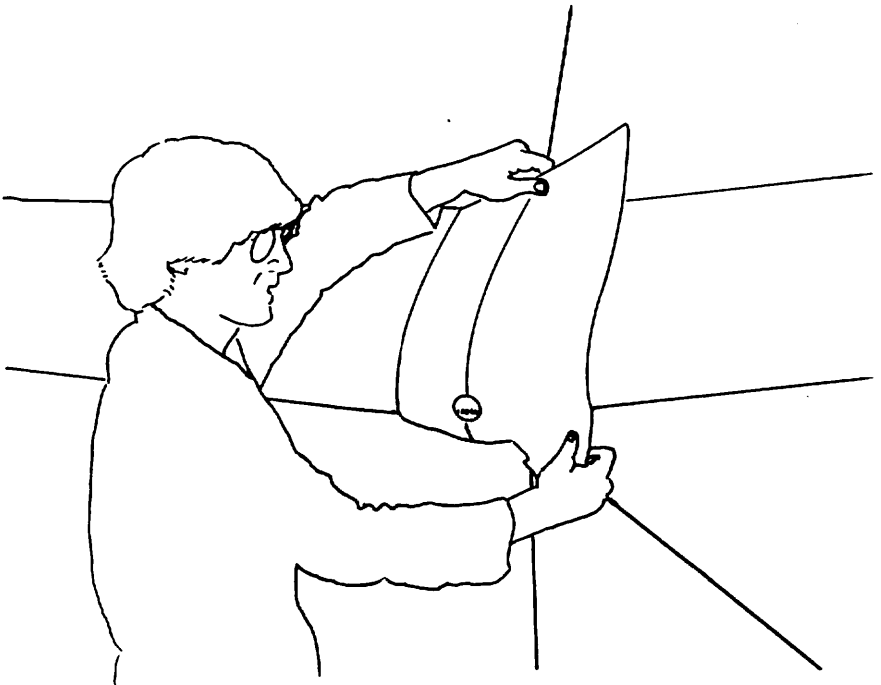
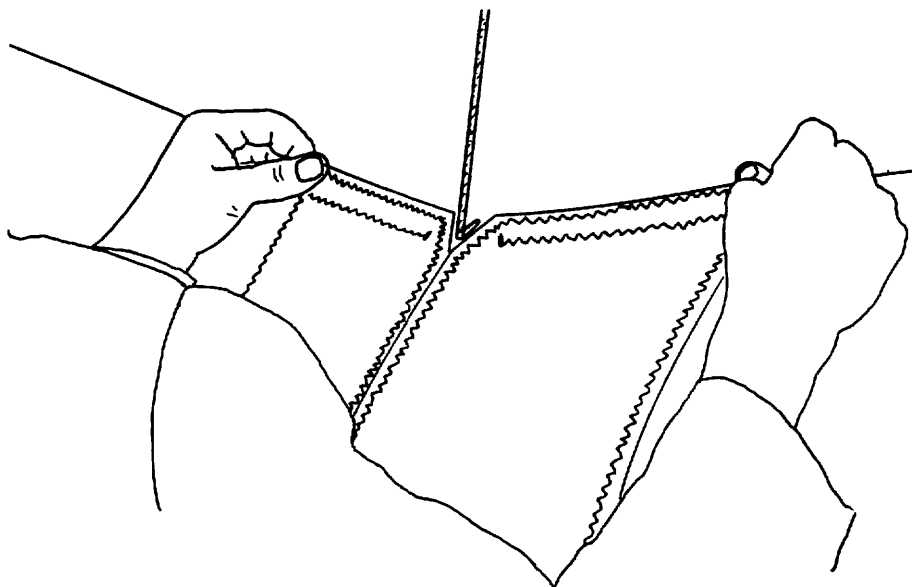
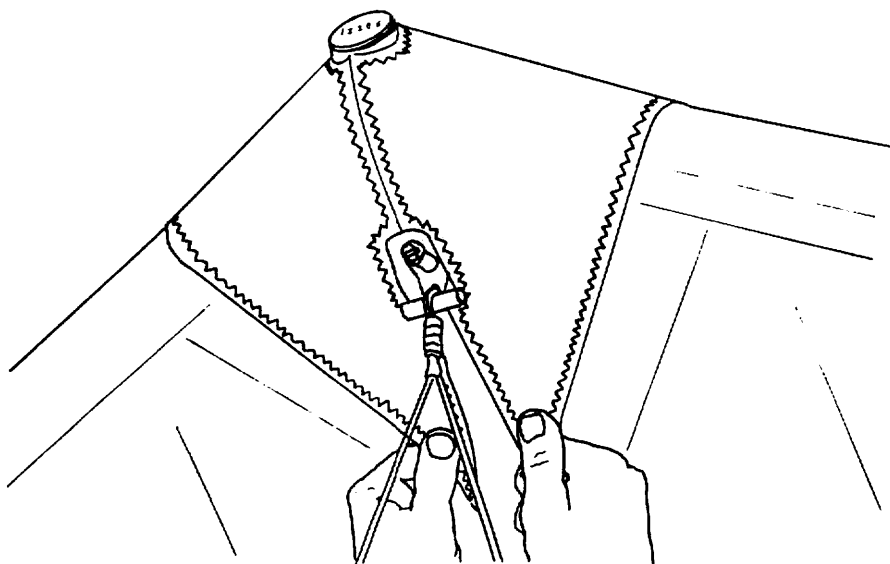

Fig 53
Fig 54
Fig 55
22) Fit the nose cone over the front of the keel (Fig 53) and attach the velcro at the top rear of the nose cone (Fig 54) taking care to line up the nose cone properly. Rest the glider back on its tail and pull the bottom corners of the nose cone back until the nose cone is tight around the nose (Fig 55) and secure the velcro on the bottom of the nose cone.